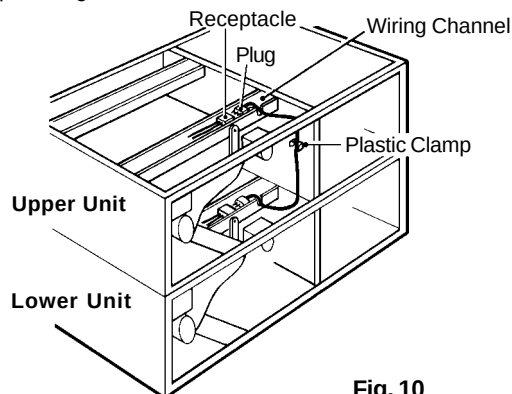

Fig. 10
15) Connect the leads (with three-way plug) located in the lower unit wiring channel to the upper or middle unit receptacle, unplugged in the above step 10). Secure the leads using the plastic clamp provided. Place the plastic cover in position. See Fig. 10.